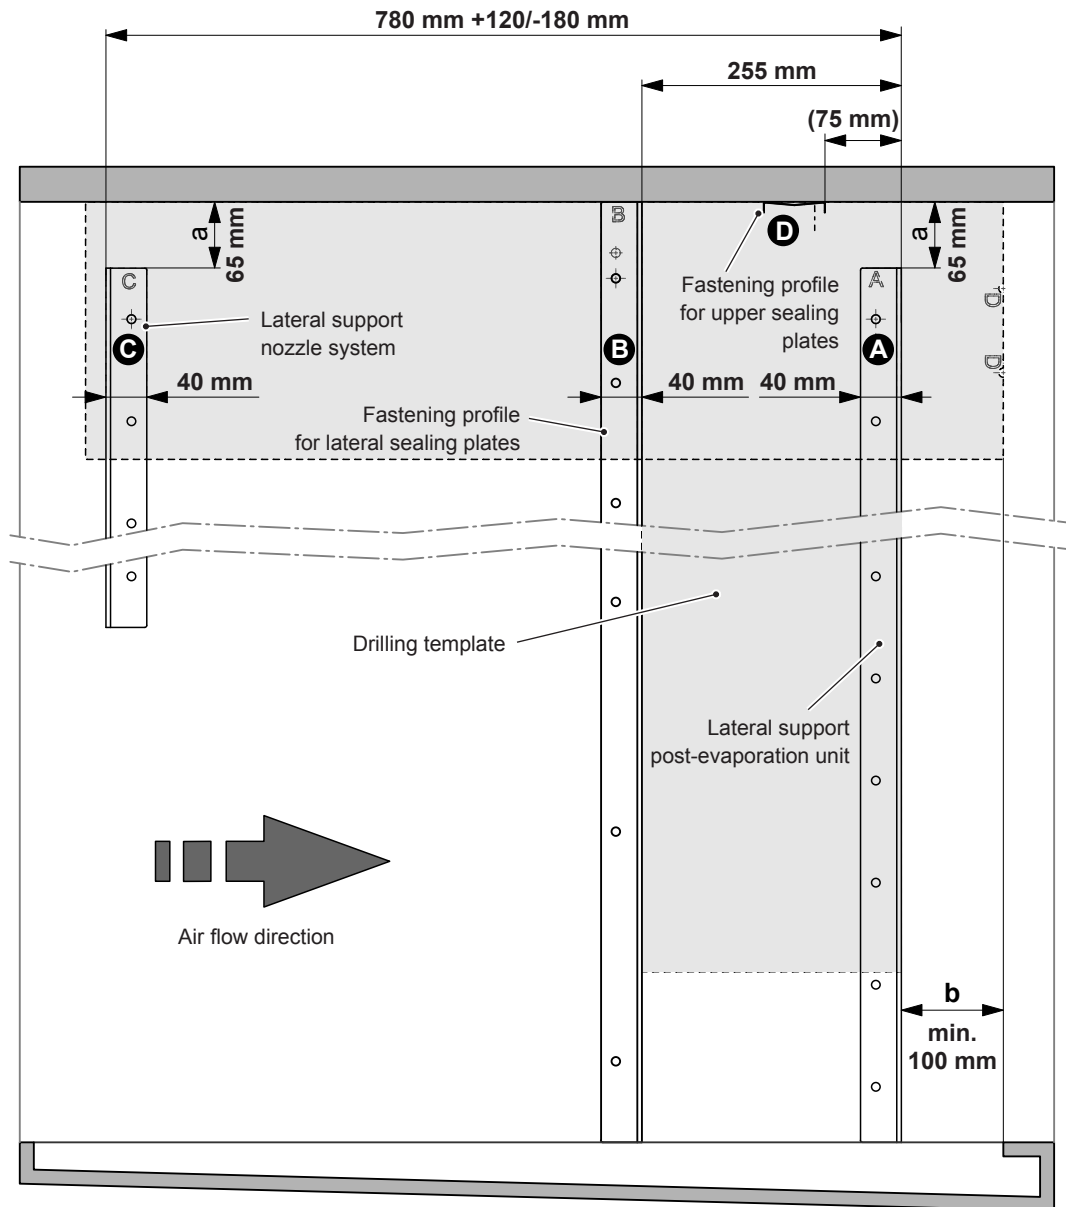
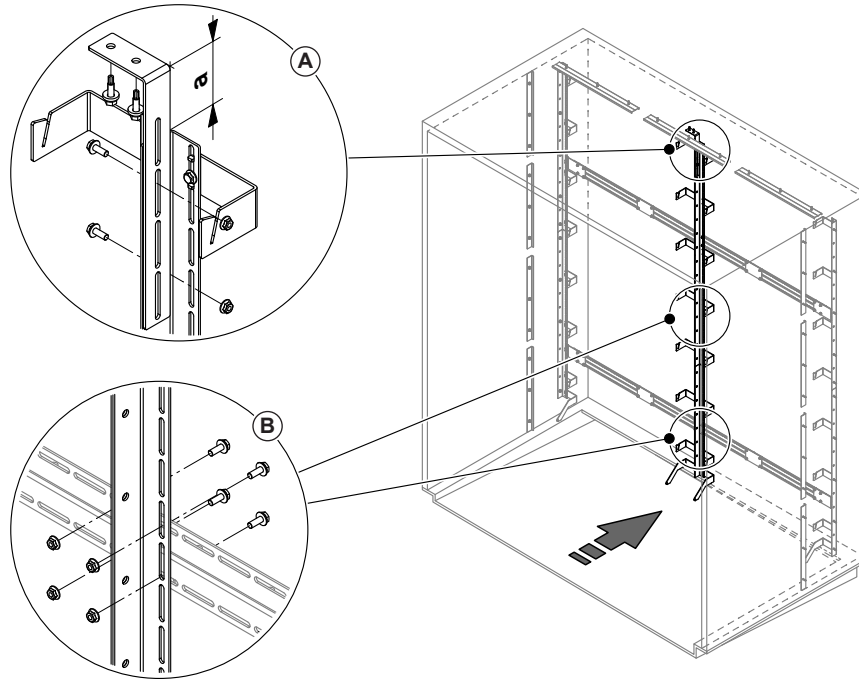

Fig. 5: Positioning of the fastening elements (side view)
Fig. 12: Mounting the vertical support(s)
- If necessary, loosen the two screw connections fixing the angle bracket(s) to the vertical support(s) and position the angle bracket(s) in such a manner that the distance between the leg of the angle bracket and the upper edge of the vertical support has the same distance as the upper edge of the two lateral supports have to the duct ceiling (see Fig. 5 and detail A in Fig. 12). Fasten the two screw connections again.
- Fix angle bracket of the vertical support(s) with two self-tapping screws 6.3 x 25 mm to the duct ceiling (see detail A in Fig. 12).
8. Mounting the diagonal stiffeners (see also frame construction overviews in Fig. 5):